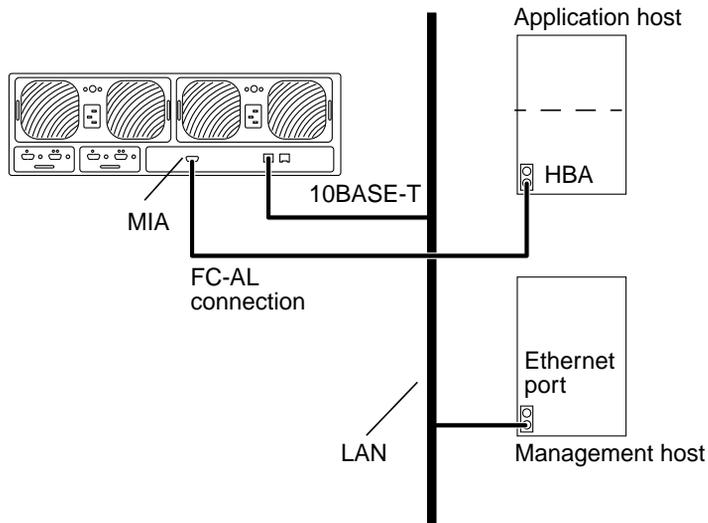

FIGURE 1-4 Sun StorEdge T3 Disk Tray Standalone Configuration
- FIGURE 1-4 Sun StorEdge T3 Disk Tray Standalone Configuration 6
FIGURE 1-4 shows the standalone disk tray configuration with one controller.